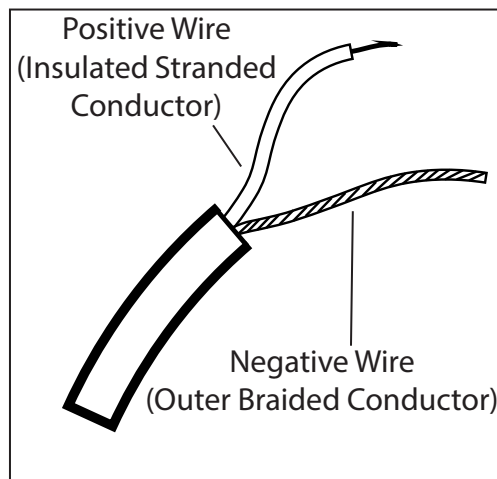

Fig. 4
5. Twist together the outer braided conductor to form the negative wire of the fixture, then strip 5/8" off the end of the inner stranded conductor to form the positive wire of the fixture (Fig. 4).